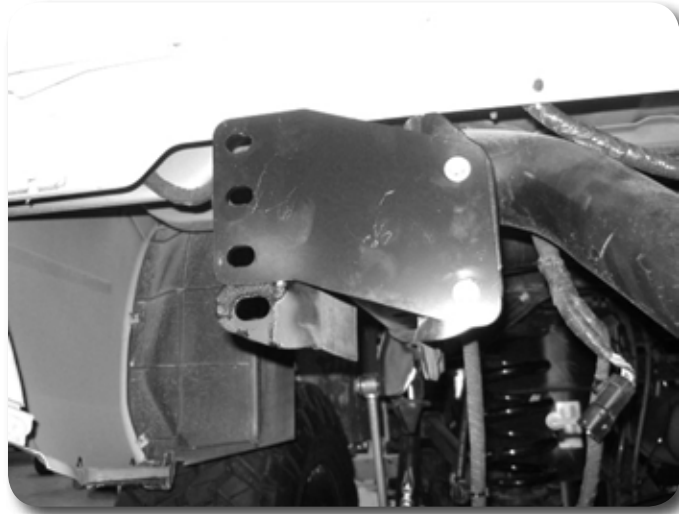

Figure 29
44. Bolt the new relocated bumper brackets with stock hardware to the inner mounts. Align the slot with factory slot. Figure 29